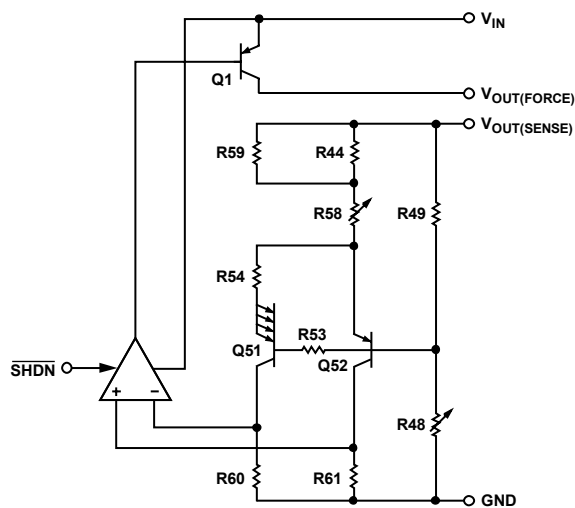

Figure 17. Simplified Schematic
Band gap references are the high performance solution for low supply voltage and low power voltage reference applications, and the ADR318 is no exception. The uniqueness of this lies in its architecture. By observing Figure 17, the ideal zero temperature coefficient (TC) band gap voltage is referenced to the output, not to ground. Therefore, if noise exists on the ground line, it is greatly attenuated on  $V_{OUT}$ . The band gap cell consists of the PNP pair, Q51 and Q52, running at unequal current densities. The difference in voltage base emitter ( $V_{BE}$ ) results in a voltage with a positive TC that is amplified by the ratio of  $2 \times (R58/R54)$ . This proportional-to-absolute temperature (PTAT) voltage, combined with  $V_{BE}$  Q51 and  $V_{BE}$  Q52, produces the stable band gap voltage.